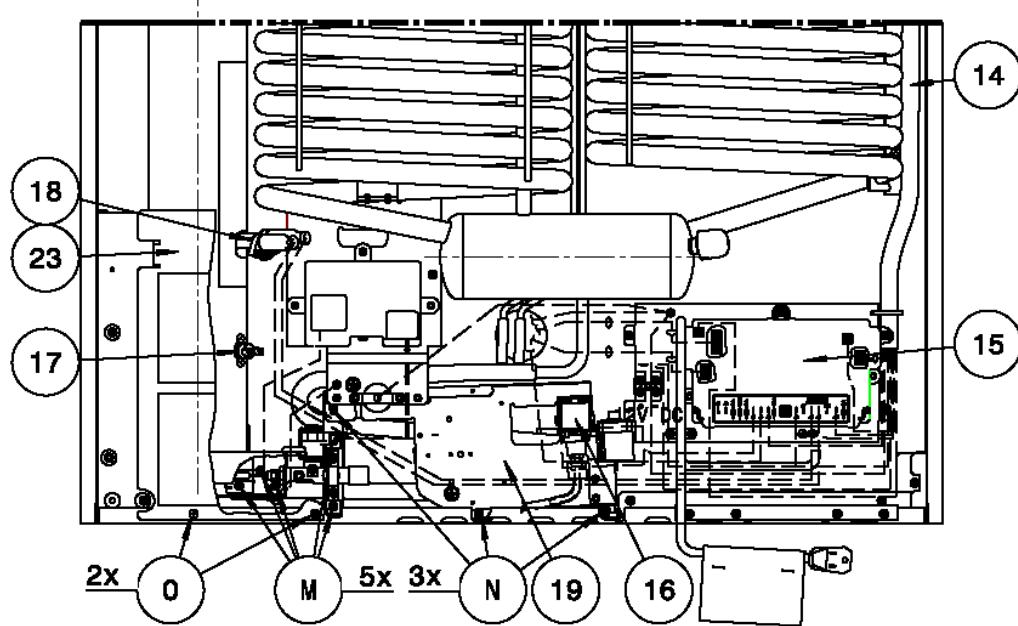

FIG. 7
19. Remove the wrap (14, Fig. 3) from the wire harness and find the four cables connected to the icemaker connector (22, Fig. 3). Disconnect all these cables from the power module (15, Fig. 7) and the water valve (16, Fig. 7).
23. Remove the protection plate by removing 2 screws (O, Fig. 7)
24. Remove the burner by removing 5 screws and removing 3 connectors (M, Fig. 7).
25. Remove the cables from the thermo fuse (17, Fig. 7) and remove the heaters by disconnecting two connectors on the power module (18, Fig. 7) and the flue baffle (24, Fig. 3).
26. Remove the steel plate (19, Fig. 7) by removing 3 screws (N, Fig. 7). Disconnect all remaining cables, the ground cable at the burner, the ground cable for the bimetal fuse, and the two remaining connections on the power module.